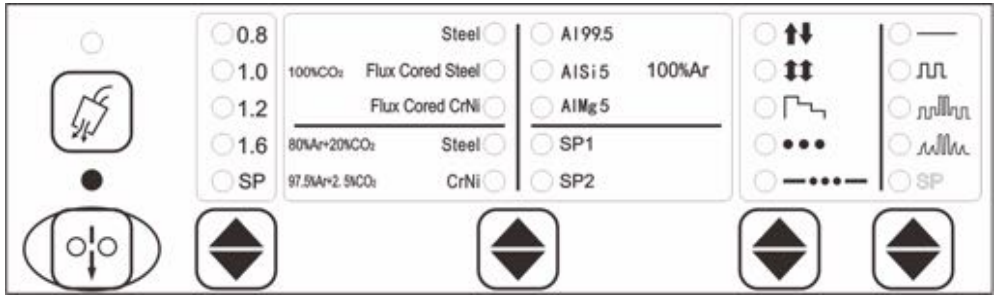

Figure 3-7 View of inching feeding on the panel of a welding power source
3. Inching feeding on the panel of a welding power source is shown in Figure 3-7.